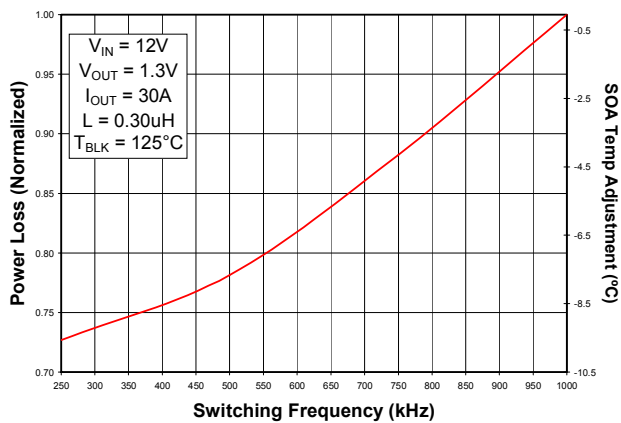

Fig. 5: Normalized Power Loss vs. Frequency
- (Fig. 5) Normalized power loss for frequency ≈ 0.95
- (Fig. 5) Normalized SOA Temperature for frequency $\approx -1.8^{\circ}\text{C}$